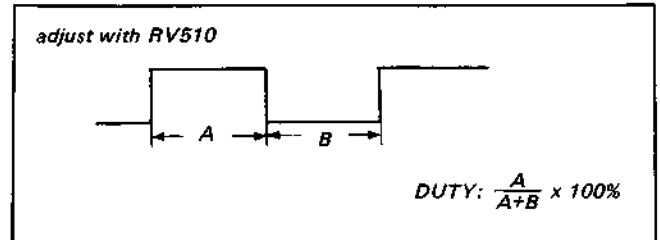

Fig. 5-17. FG amp DC bias adjustment (3)
- (3) Connect CH-2 of the oscilloscope to pin ⑳ of IC501 (TP506).
- (4) Short pin ⑧ of IC506 (TP514) and TP507 (5 V) and adjust with RV510 so that the duty ratio of CH-2 waveform becomes 45%. (See Fig. 5-17)